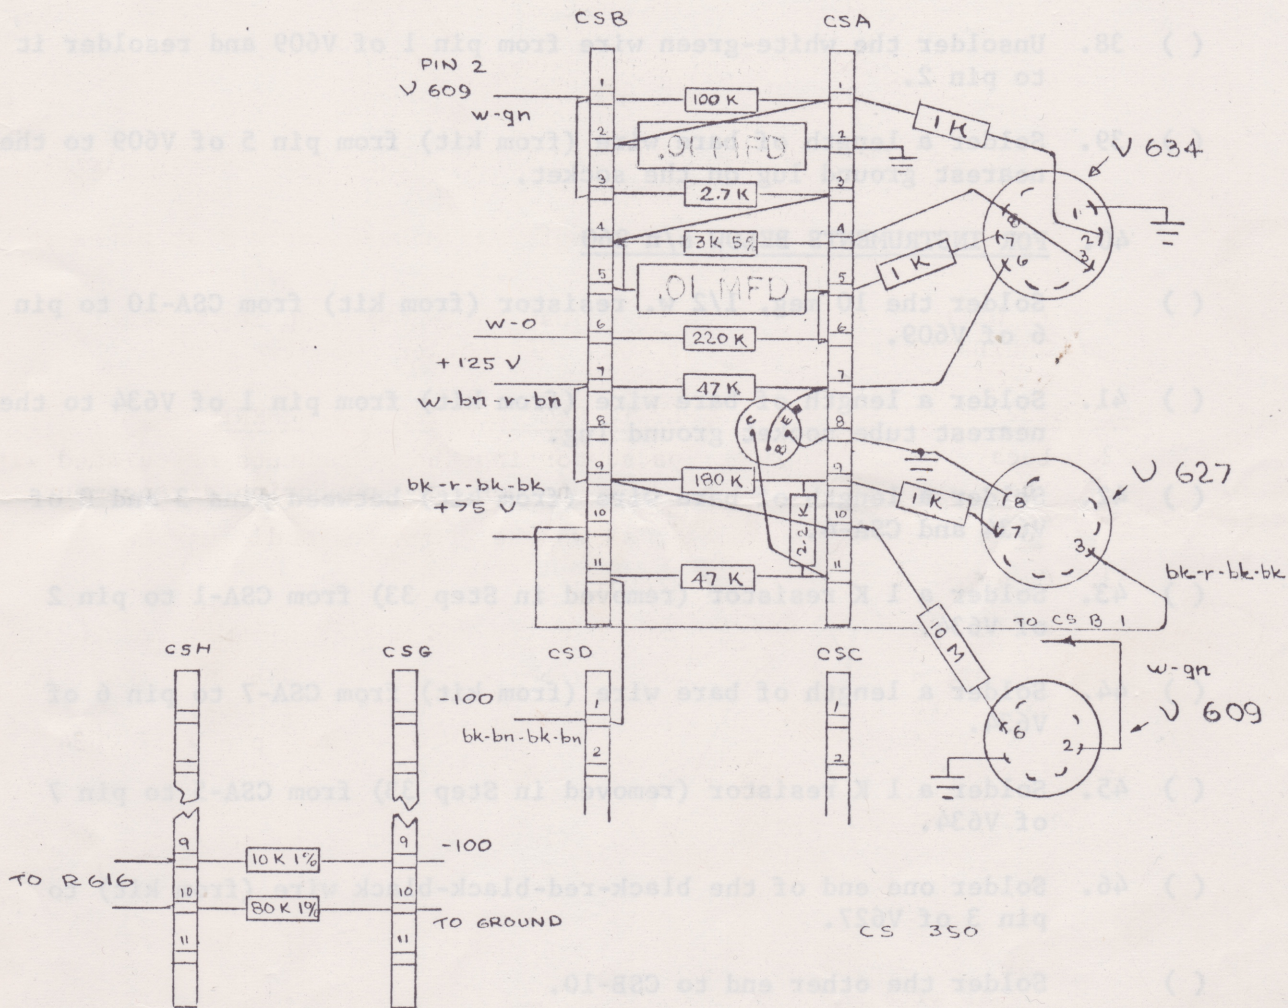

FIG. 3
- ( ) 32. Locate the ceramic strips supporting the components associated with the -100 V supply in Fig. 3, and note the numbering arrangement.
NOTE: Fig. 3, on page 7, shows the completed modification.
NOTE: Refer to Fig. 3 while performing Steps 35 through 49.